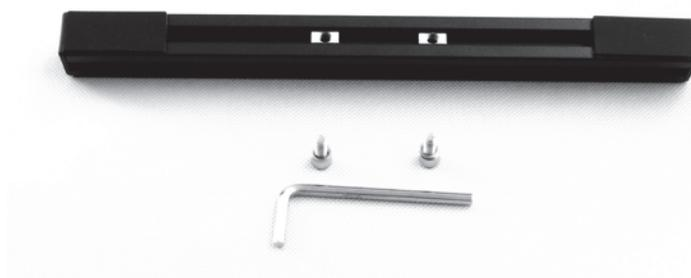

Fig. 2.11.
5.1. Drive screws with washers out of shaped nuts (fig. 2.11).